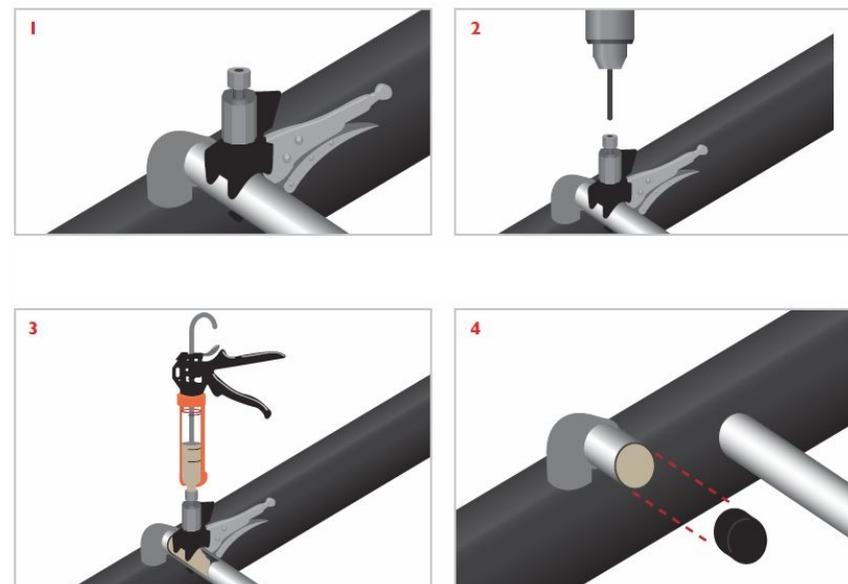

Figure 28 - Rapid service isolator
- a) **Using Rapid Service Isolator for Low Pressure service ¾" to 1 ¼"** (see Figure 28).
4. Attach the modified jaw locking pliers to the service at the point of isolation (see Figure 28 – 1).
5. Using the air drill and a 5mm bit, drill through the gland and into the service. This takes seconds. (see Figure 28 – 2).
8. Screw the sealant cartridge onto the barrel nipple (see Figure 28 – 3).
- Push the rubber cap over the cut end of the service (see Figure 28 – 4) then remove the stub from the main and fit either a plug, or new top or side tee (with integral stopper closed). (See Section B7).